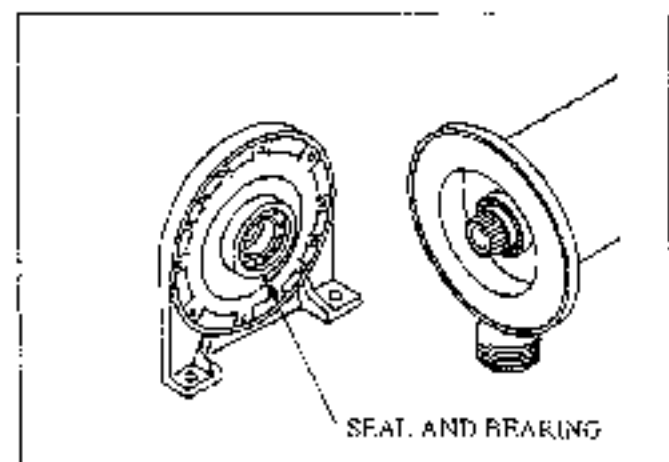

Figure 21
- (20) Inspect the seal and bearing in the assembled condition. See figure 21.